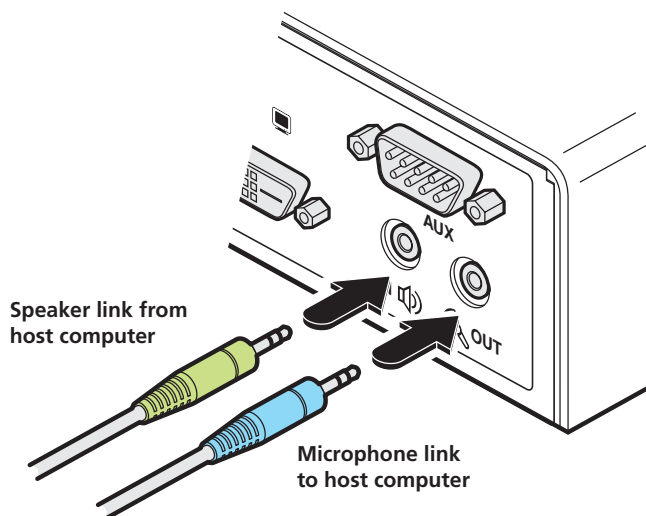

Figure 3-7. Connect the speaker and microphone cables to audio sockets.
- 1 Connect an audio link cable between the  socket on the Local unit rear panel and the speaker output (line out) socket of the host computer. See Figure 3-7.